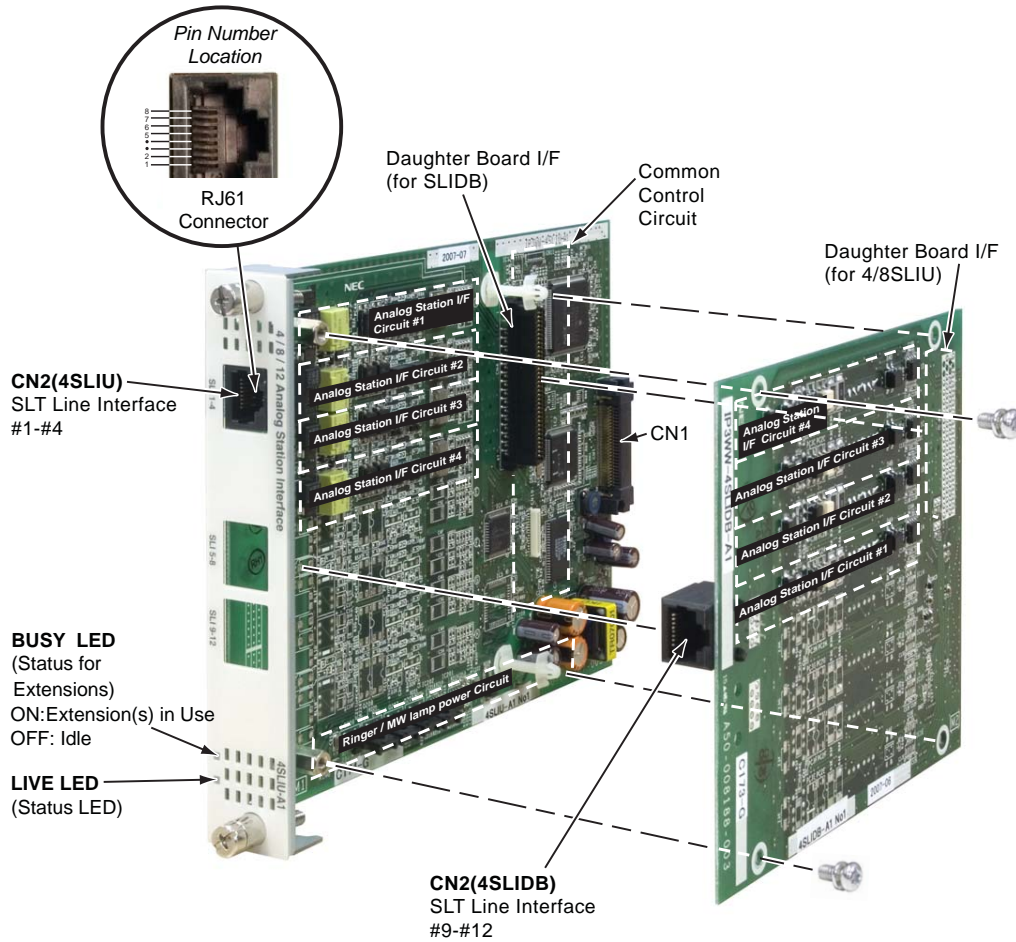
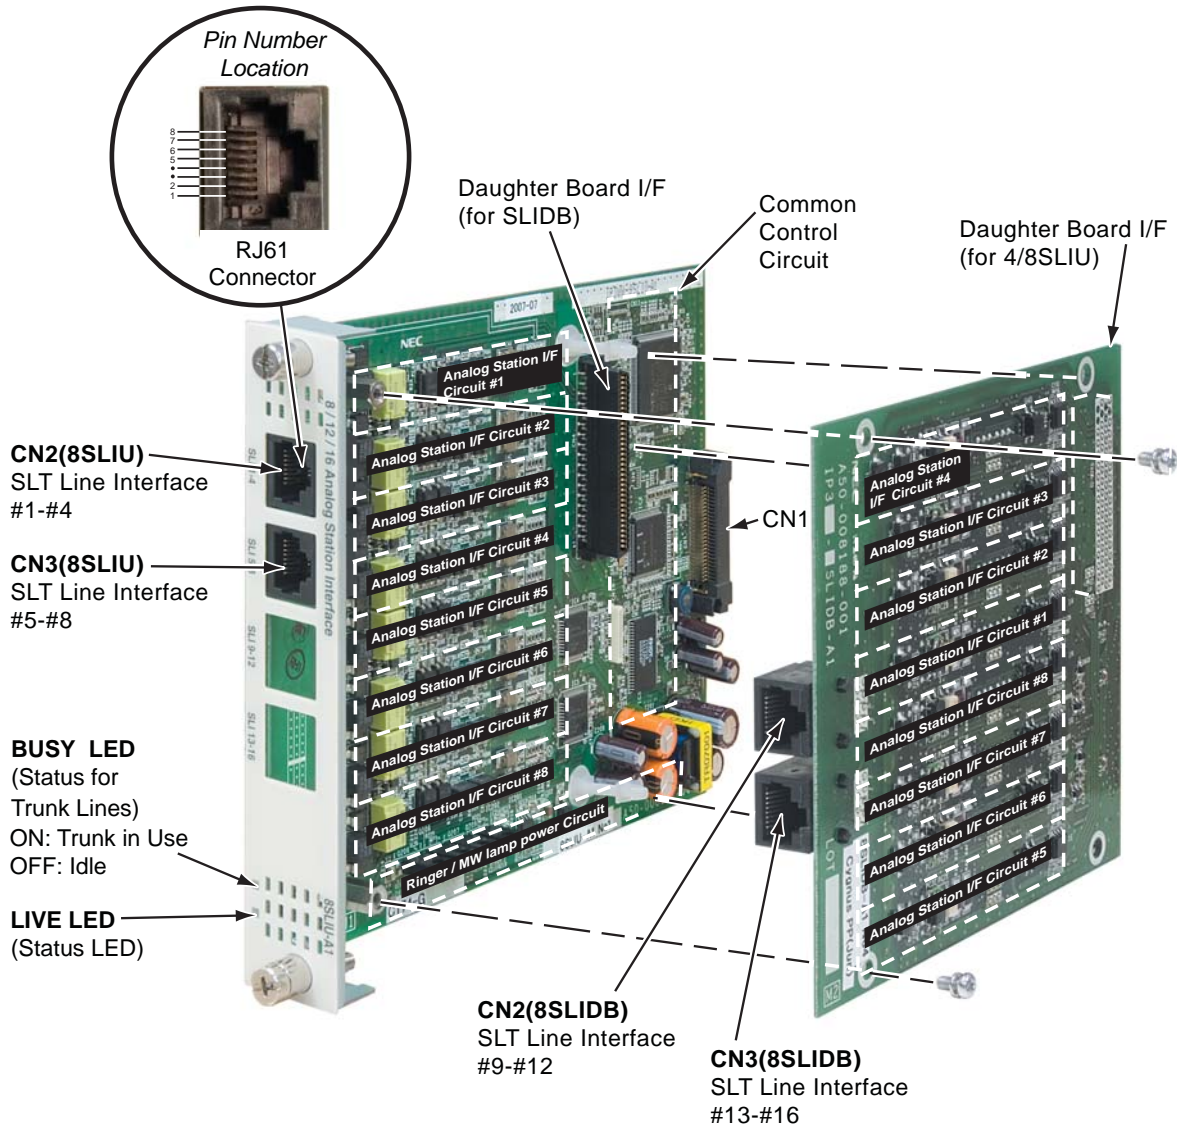

Figure 2-23: PLACING A 4SLIDB ONTO AN 4SLIU BLADE
Figure 2-24: PLACING A 8SLIDB ONTO AN 8SLIUBLADE
2.5.3 Analog Station (4/8SLIDB) Daughter Board (Figure 2-23 - Figure 2-24) - P/N 0911042 and 0911046